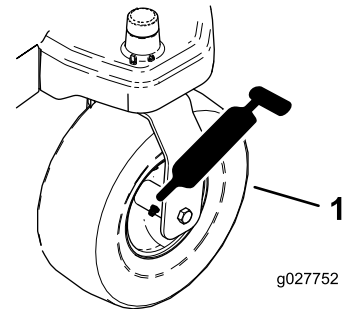
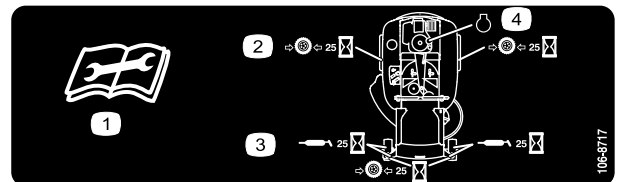

Figure 36
Figure 37
3. Clean the grease fittings (Figure 36 and Figure 37) with a rag.
4. Connect a grease gun to each fitting (Figure 36 and Figure 37).